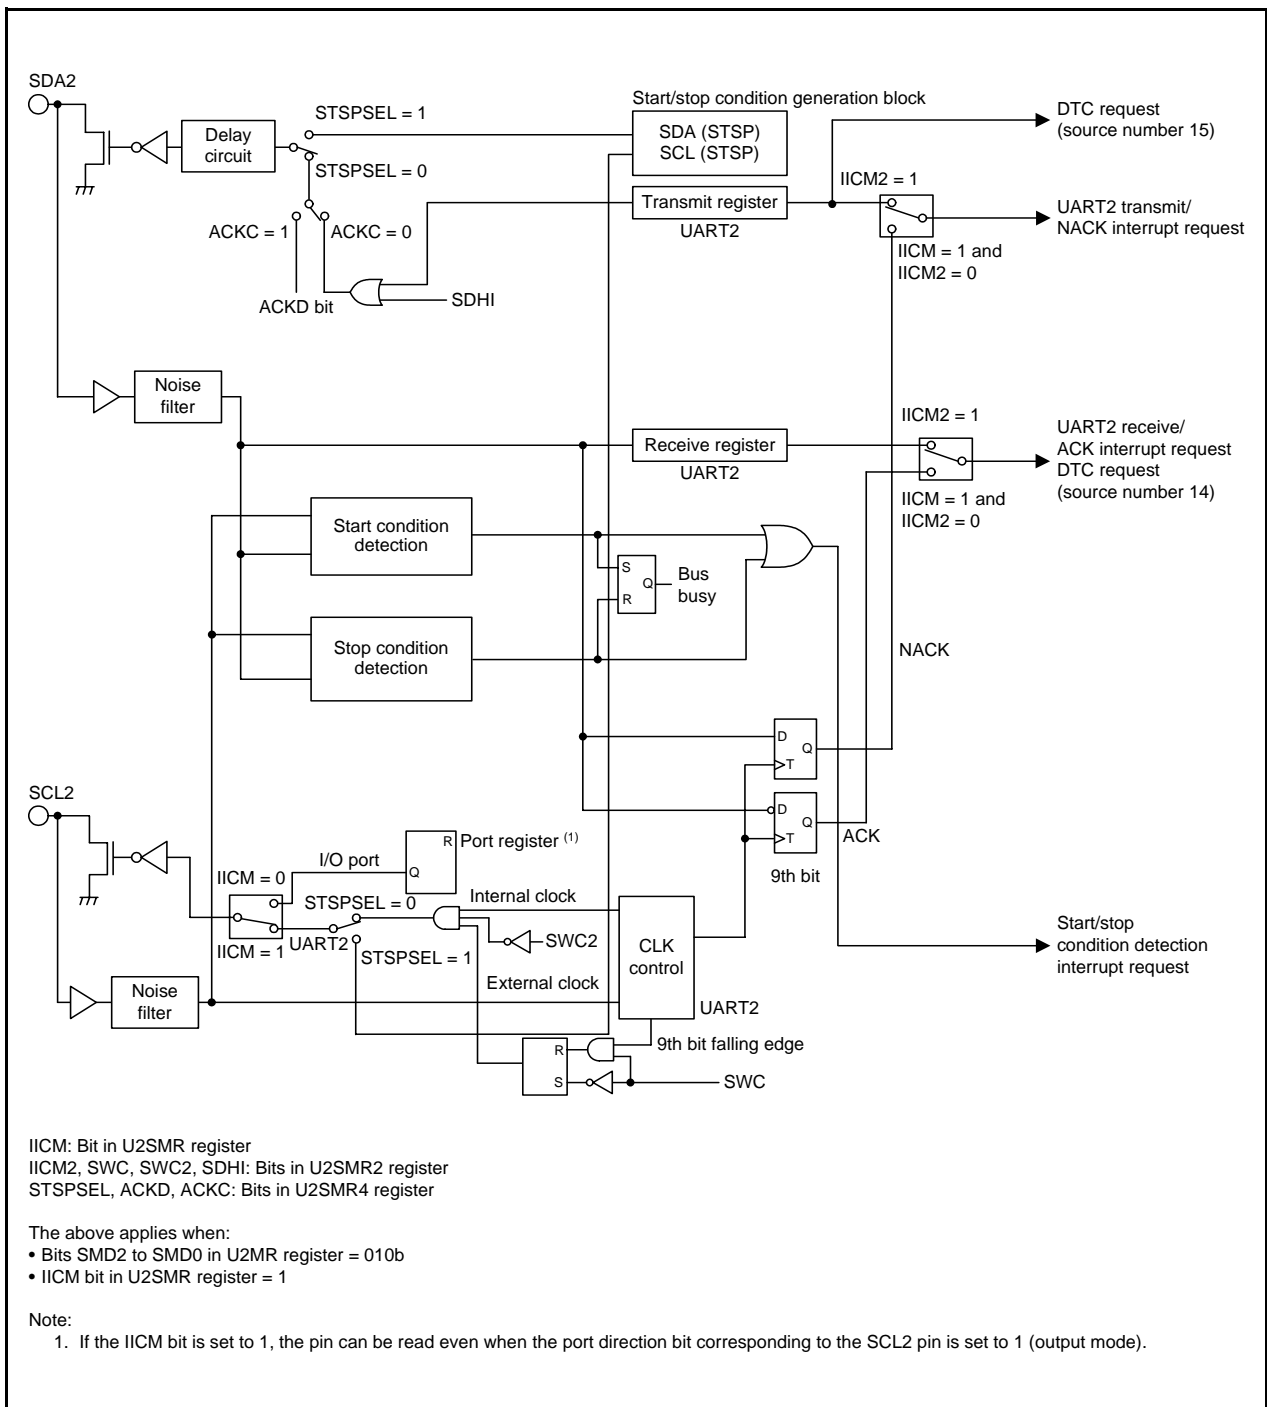
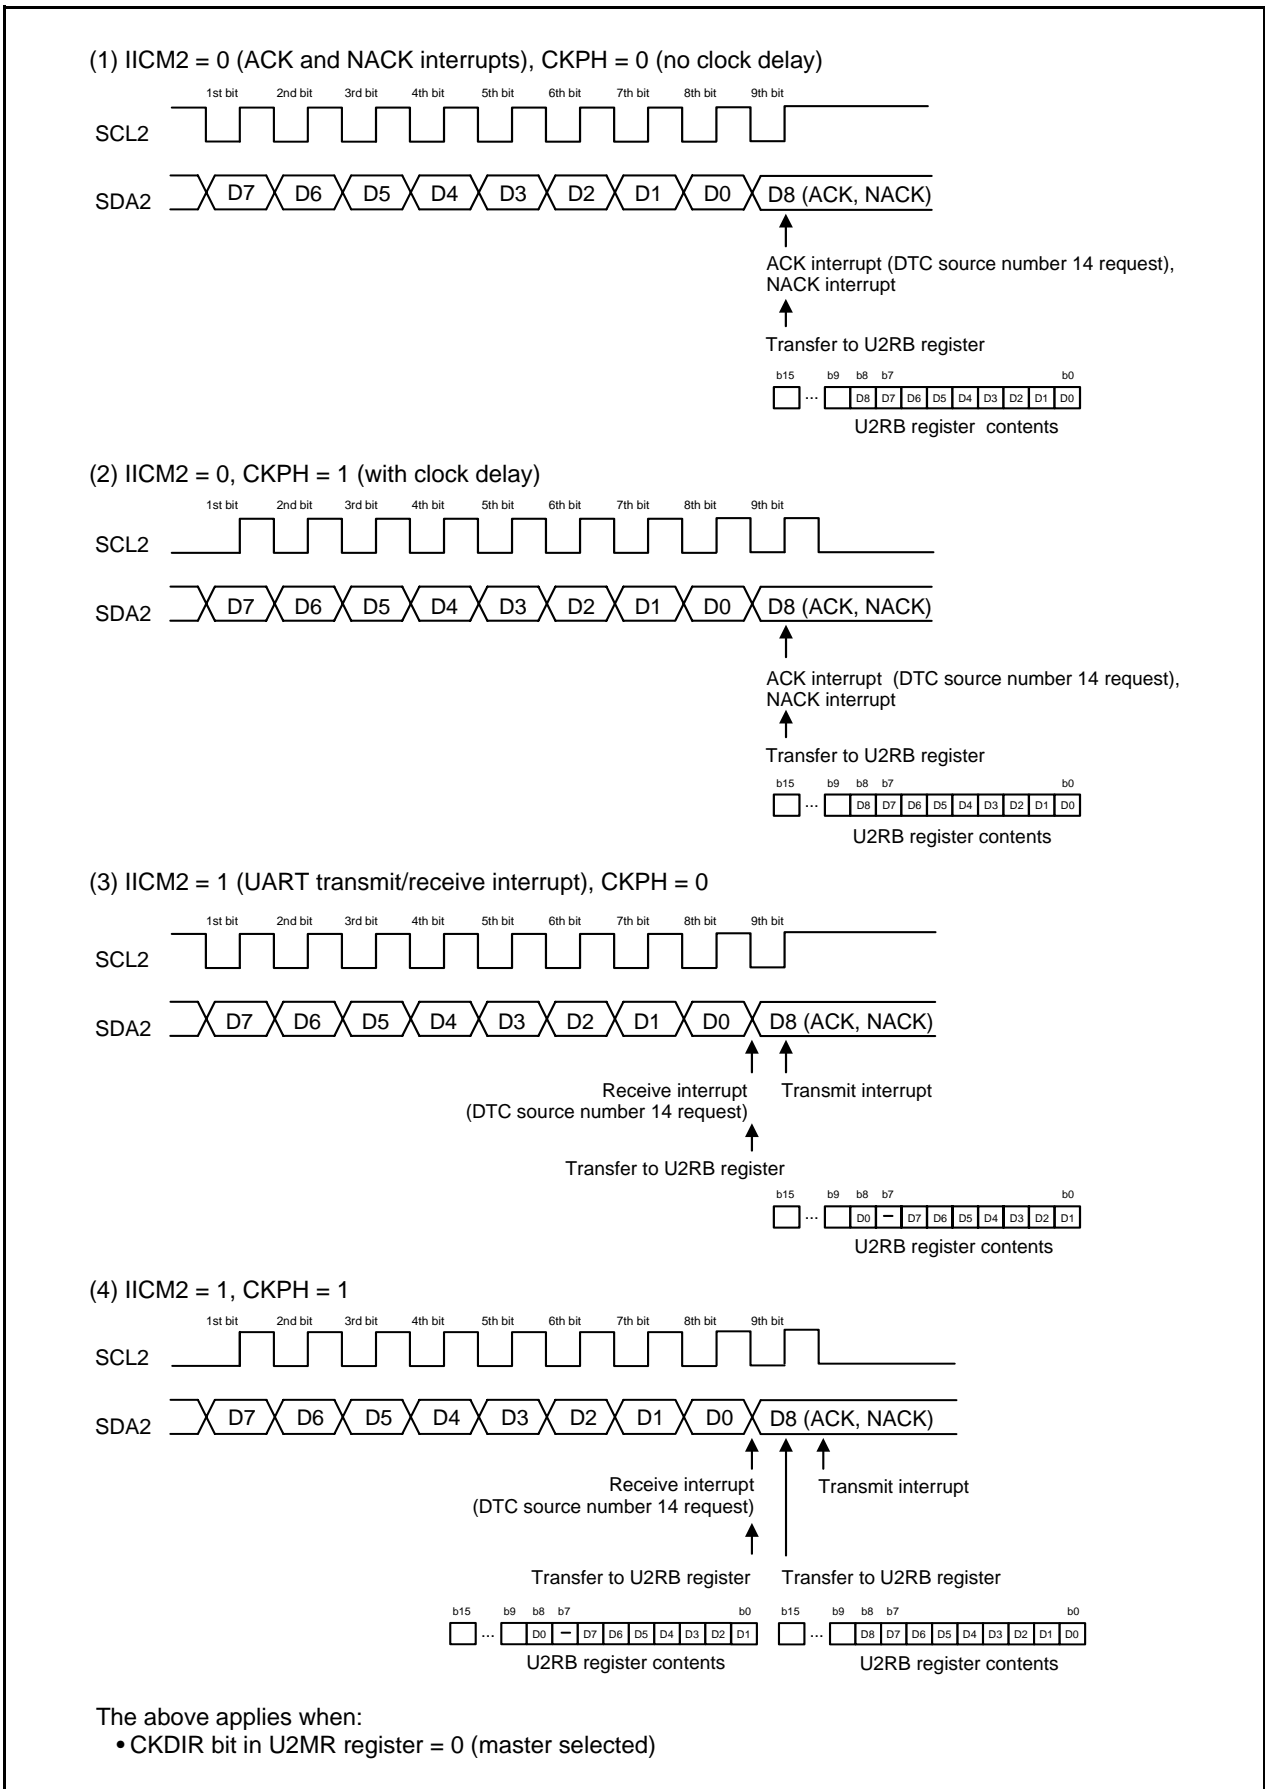

Figure 21.13 I²C Mode Block Diagram
Figure 21.14 Transfer to U2RB Register and Interrupt Timing
I²C mode is provided for use as a simplified I²C interface compatible mode. Table 21.9 lists the I²C Mode Specifications. Tables 21.10 and 21.11 list the registers used in I²C mode and the settings. Table 21.12 lists the I²C Mode Functions, Figure 21.13 shows an I²C Mode Block Diagram, and Figure 21.14 shows the Transfer to U2RB Register and Interrupt Timing.
- Refer to **Figure 21.14 Transfer to U2RB Register and Interrupt Timing**.
The transfer clock is used to transmit and receive data as is shown in **Figure 21.14 Transfer to U2RB Register and Interrupt Timing**.